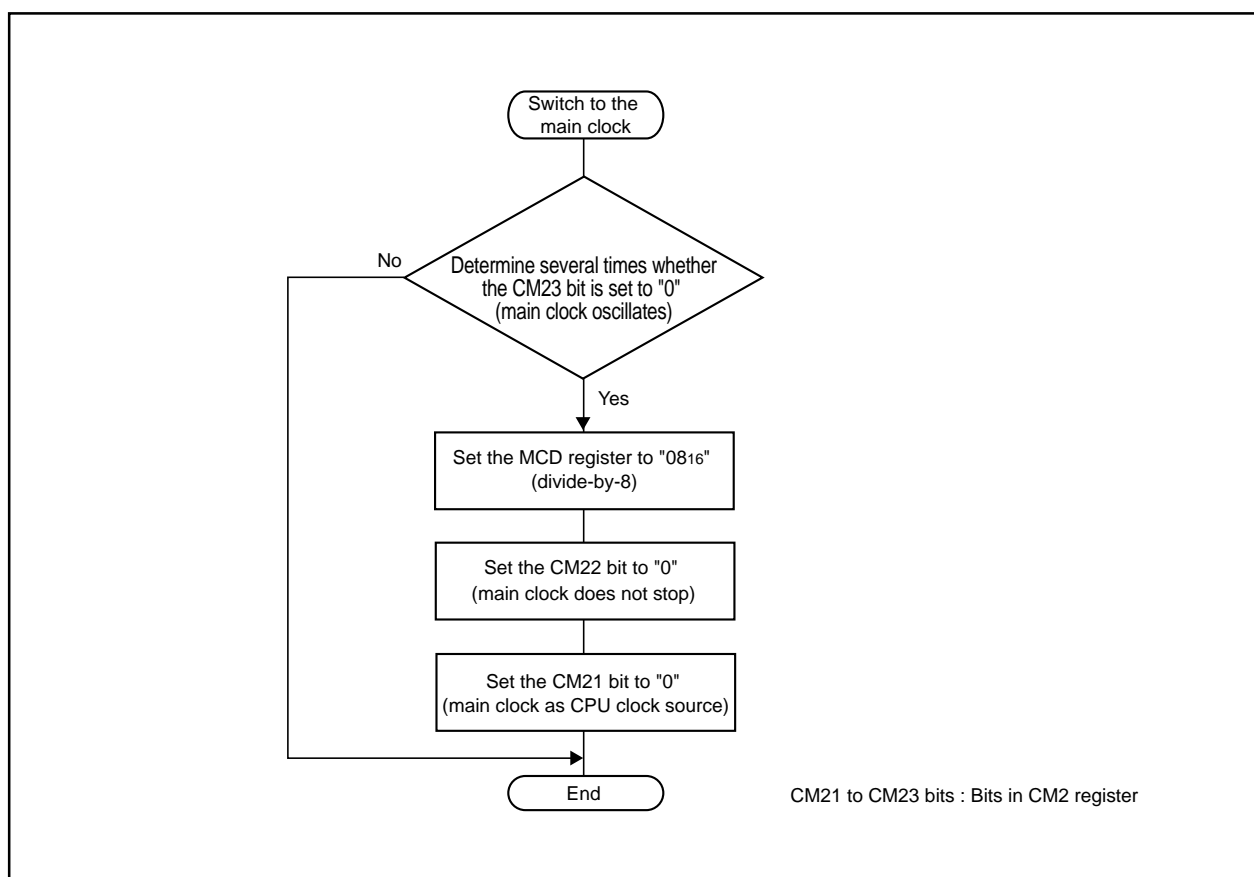

Figure 8.11 Switching Procedure from On-chip Oscillator Clock to Main Clock
- When the main clock resumes running after an oscillation stop is detected, set the main clock as the clock source for the CPU clock and peripheral function clock. Figure 8.11 shows the procedure to switch the on-chip oscillator clock to the main clock.